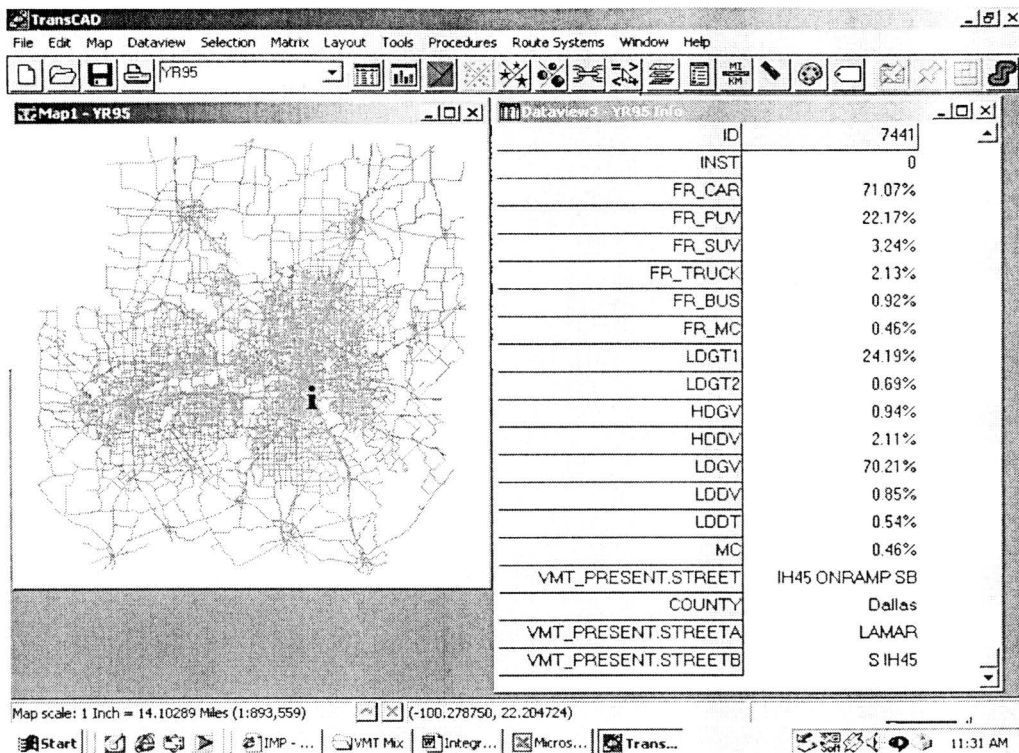

Figure I-1. Display of the VMT Mix on an IH-45 SB ramp in Dallas, Texas.
3. The Figure below (Figure I-1) is an illustration of what the user can expect to see when the above two steps have been completed.